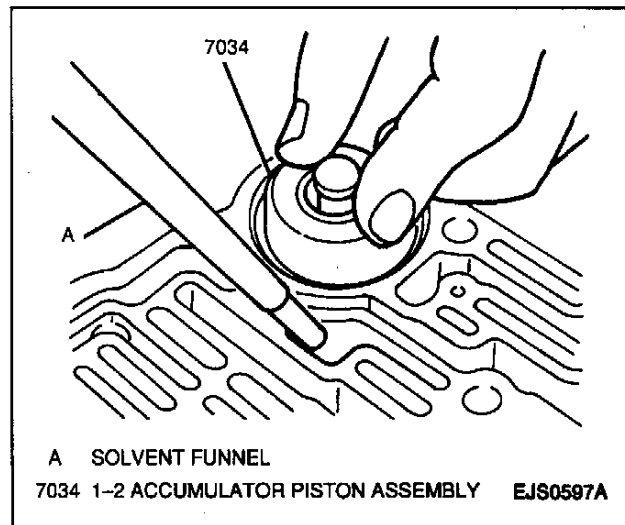

Figure 68—Cleaning 1-2 Accumulator Piston (3L30, 3-Speed)
2. 1-2 accumulator piston assembly by pouring solvent into the 1-2 accumulator passage in the valve body and repeatedly compressing and decompressing the 1-2 accumulator piston. This will flush out any dirt or foreign material in the 1-2 accumulator piston chamber. Make sure all solvent is drained out of the 1-2 accumulator piston chamber after cleaning (Figure 68).